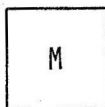

Figure 2 (motor with shaft)
The interface card itself is shown in Figure 2 with IC A used to request the required wait states. Before examining the circuit, I would like to thank MITS for their indirect assistance in the design of this interface card. Owners of the MITS 1K Static and S10B cards will note a distinct resemblance in the decoding, wait state generation, and interrupt enable circuitry.
(Apart from these areas of similarity, the design is all mine; patents are pending.) Not shown on the schematic of Figure 2 are 2 hex buffers for the 12 address lines and pull-up resistors on the 8 data lines. While the Altair computer uses separate input and output busses, the VRAM uses a bidirectional bus which is split, using 8T97s, ICs, F, G, and H. Four gates of F and 4 of G comprise the data in, and 6 of H and 2 of G are used for data out. To the left of the schematic, the ICs N and O select either the data out or data in lines, depending on the states of SOUT, SIMP, SMEMR and, of course, the address lines A12 to A15 (IC N6). DI is selected through IC O pin 6, and DO is selected through IC O pin 3. IC O pin 8 is active low during both read and write operations. It is this signal applied to IC L pin 12 plus the BV signal applied to IC L pin 13 that produces the chip select (CS) pulse at IC L pin 8. CS is also, possibly unnecessarily, a function of M1, because IC O 8 will go low during the latter part of M1. IC L pin 11 also enables two gates of IC F via pin 15 of F. The R/W signal is applied through one to the VRAM, and the other is the source of the PRDY signal to the processor.